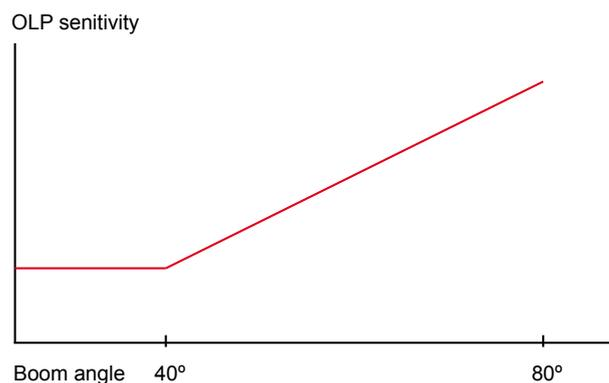

Fig. 11
- To control the speed, the spool movement is controlled by space. This is made by calculations regarding boom angle and load (Fig. 11).